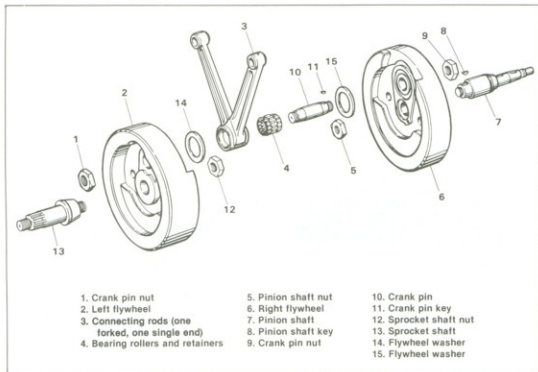
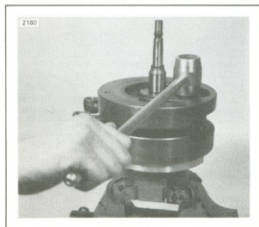

Figure 3-43. Flywheel Assembly — Exploded View
Figure 3-45. Removing Crank Pin Nut
Disassembly (Figure 3-43)
Figure 3-45. To loosen flywheel, strike right flywheel rim with soft metal mallet at 90 degrees to crankpin. Remove right flywheel and gear shaft assembly. Remove crank pin key (11, Figure 3-43).
3. Hold down bearing assembly with a short length of pipe or tubing so connecting rods (3) may be slipped off bearings. Remove bearings (4). Hold together in set until bearings are washed and re-fitted to crank pin.
4. Using 1 5/8 in. socket, Snap-On Part No. S6202, remove sprocket shaft nut (12). Tap sprocket shaft (13) out of flywheel.
5. Turn flywheel over in fixture and remove crank pin nut (1). Tap crank pin out of flywheel.
6. Place pinion shaft and flywheel in fixture and remove pinion shaft nut (5). Tap pinion shaft (7) out of flywheel and remove key (8) from shaft.
Cleaning and Inspecting Flywheels (Figure 3-43)
Assembling Flywheels (Figure 3-43)